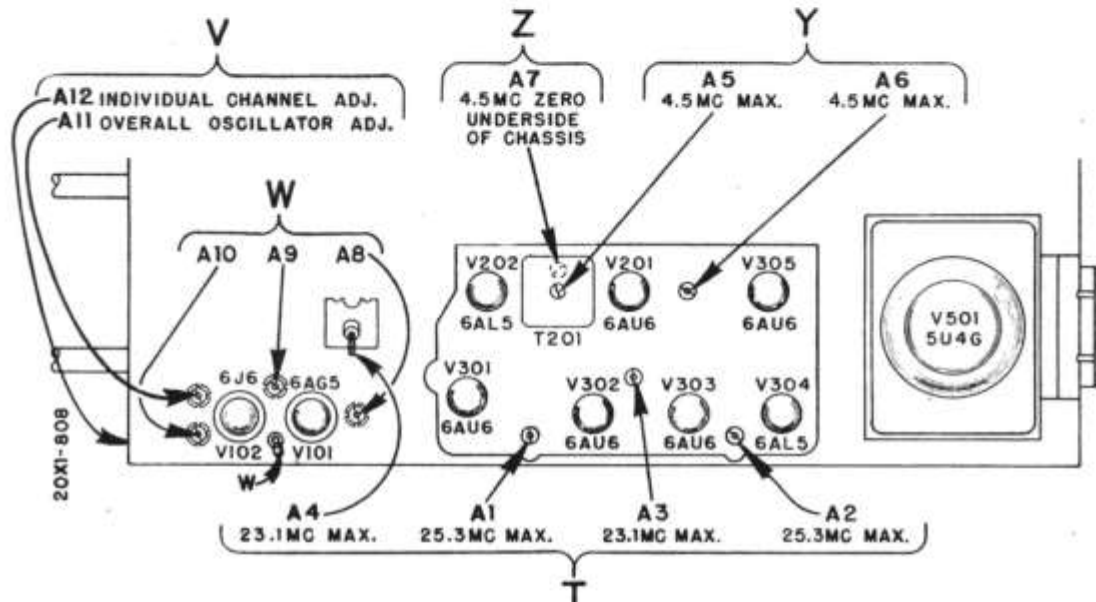

Figure 30. Top View of Chassis Showing Alignment Adjustment Locations.
- Alignment adjustment and connection point locations are shown in Figures 30 and 29.